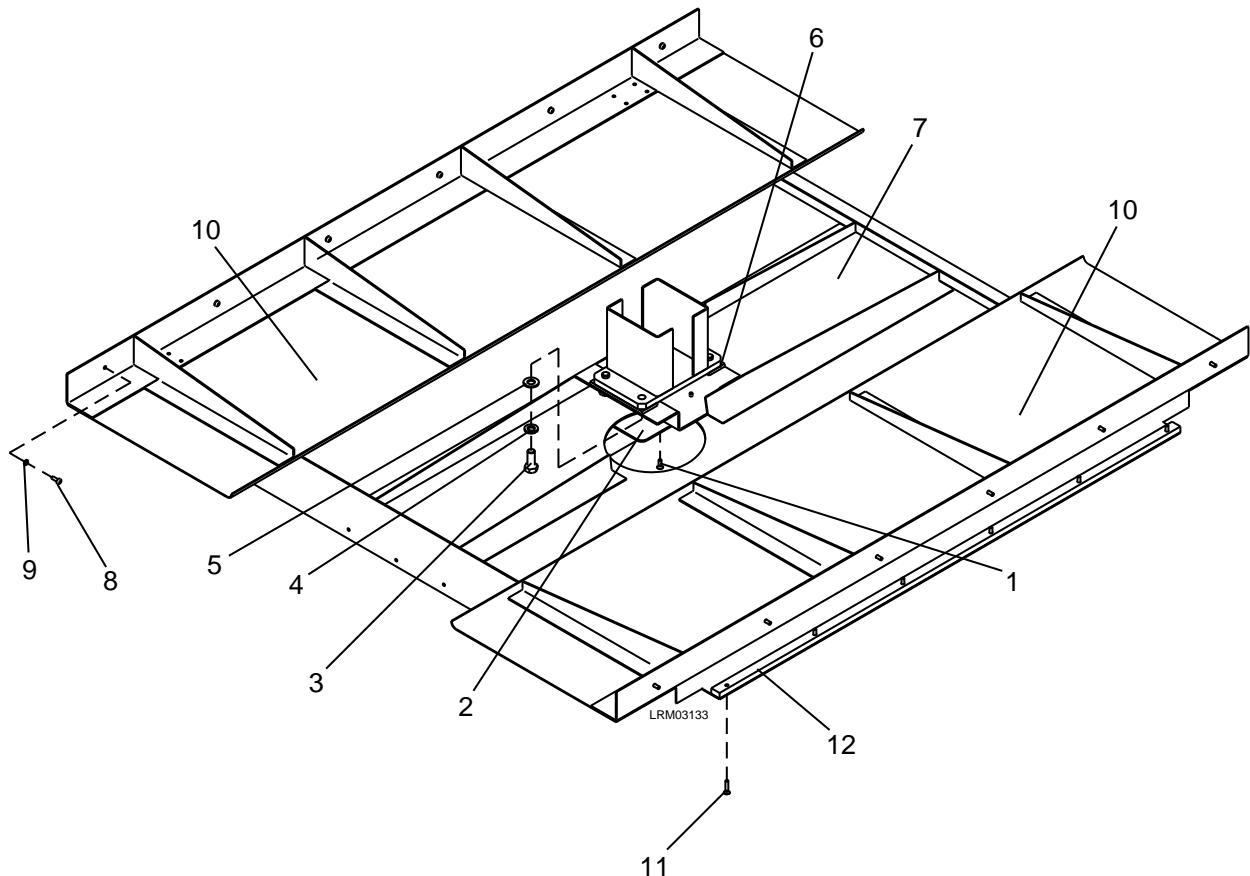

Figure 7-132: Ceiling Panels
1. Remove the four M4 x 10 oval head screws (1) from the cover (2). See Figure 7-132.
2. Remove the cover (2).
3. Remove the four M10 x 25 bolts (3), M10 lock washers (4) and M10 plain washers (5) from the center ceiling panel (7).
4. Remove the two rubber shims (6).
5. Remove the center ceiling panel (7).
6. Remove the twelve M4 x 12 pan head screws (8) and M4 lock washers (9) from the two outer Ceiling Panels (10).
7. Remove the twelve M4 x 20 flat head screws (11) from the two outer ceiling panels (10).
8. Remove the two outer Ceiling Panels (10).
9. Remove the two packing (12).